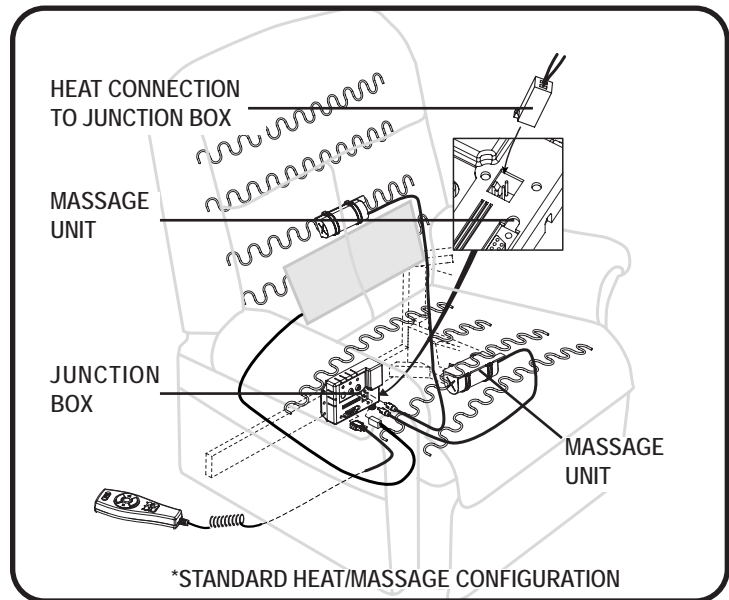

Figure 4.2 Harness Connections
4. Connect the hand control harness to the chair and heat/massage harnesses (if equipped) to the chair (**fig 4.2**).